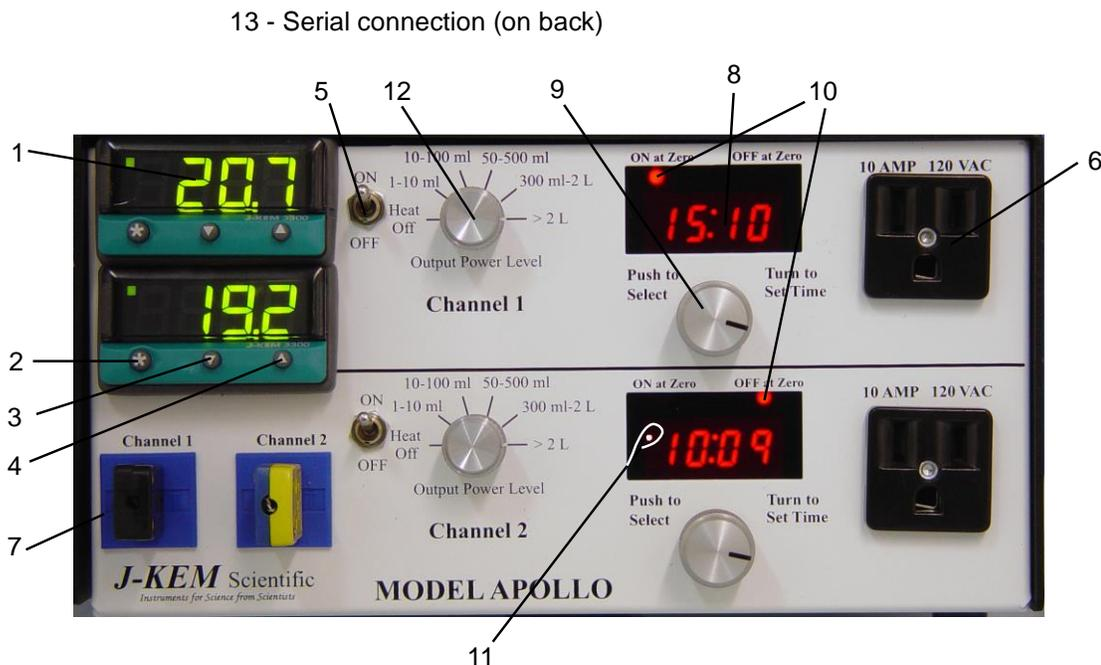

Figure 1
3.4 Temperature Sensor Input. Every controller is fitted with a specific *type* of thermocouple input and can only be used with a thermocouple of the same type. For the correct temperature to be displayed, the thermocouple type must match the receptacle type on the front of the controller (Figure 1; # 7). All thermocouples are color coded to show their type (Blue = type T; Yellow = type K; Black = type J). The color of the thermocouple plug must match the color of the receptacle on the front of the controller. If the thermocouple is broken or becomes unplugged, the error message “**inPt**” **FAiL**” blinks in the temperature meter display and the controller stops heating.